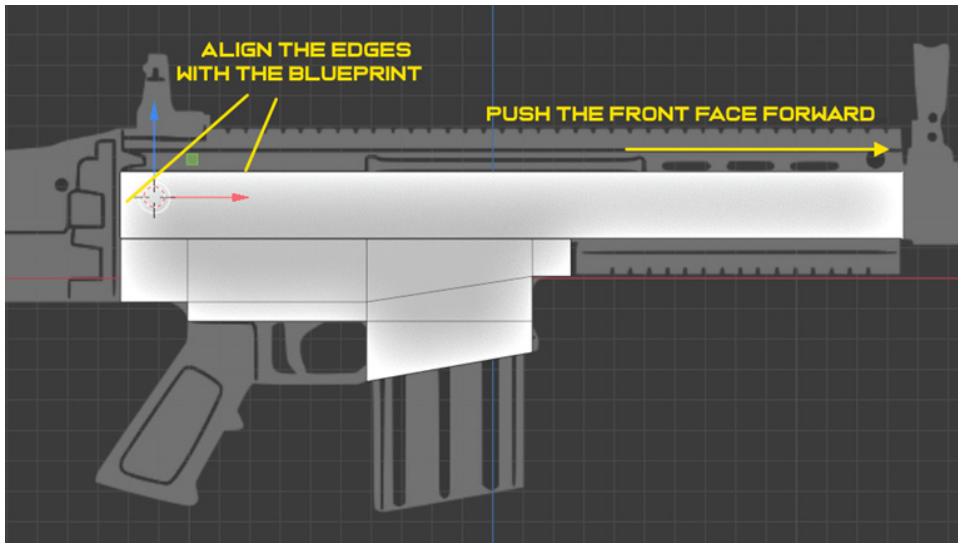

Figure 2.17 – Upper receiver
3. In the side view, align the edges of the cube with the lines in the reference. For now, align the height of the cube with the part of the blueprint shown in *Figure 2.17*. Let's push the side of the cube to the right so it matches the length of the body. The top and bottom of this object will vary in width, so we will model those parts using some different techniques: